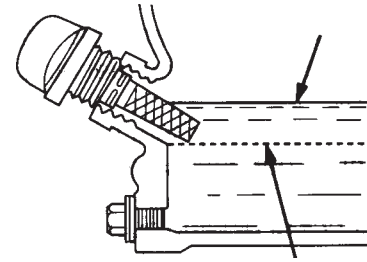

Figure 8. Engine Oil Dipstick (Oil Level)
4. If the oil level is low (Figure 8), fill to the edge of the oil filler hole with the recommended oil type (Table 5). Maximum oil capacity is 400 cc.